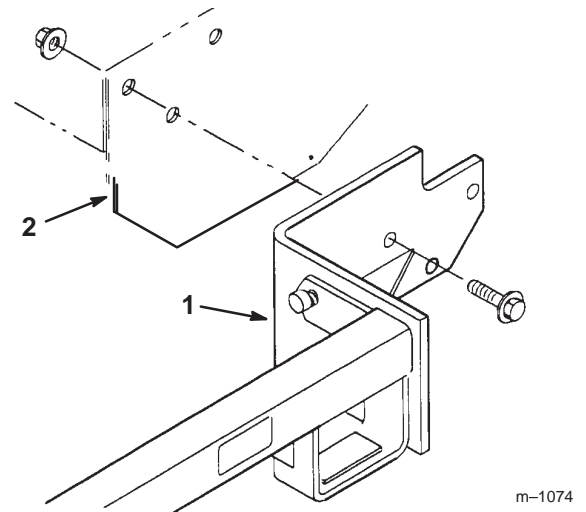

Figure 3
1. Align the carrier frame holes with the mounting holes in the traction unit frame (Fig. 3).
2. Fasten each side of the carrier frame to the traction unit with 3 flange screws (1/2 x 25 mm (1 inch)) and locknuts. Torque the mounting screws to 81–109 N·m (60–80 ft-lb) (Fig. 3).